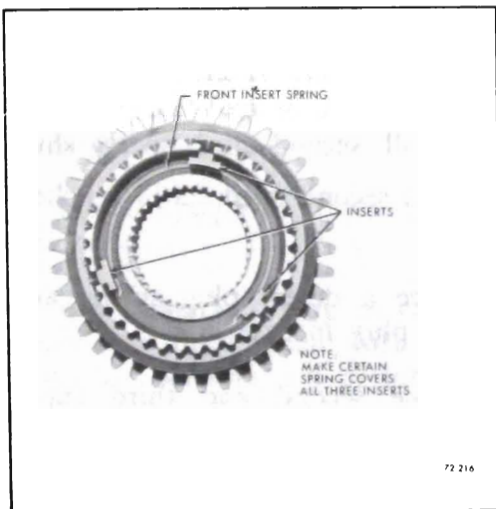

Figure 72-216 - Installing Front Insert Spring
5. Install front insert spring in hub as shown in Figure 72-216.